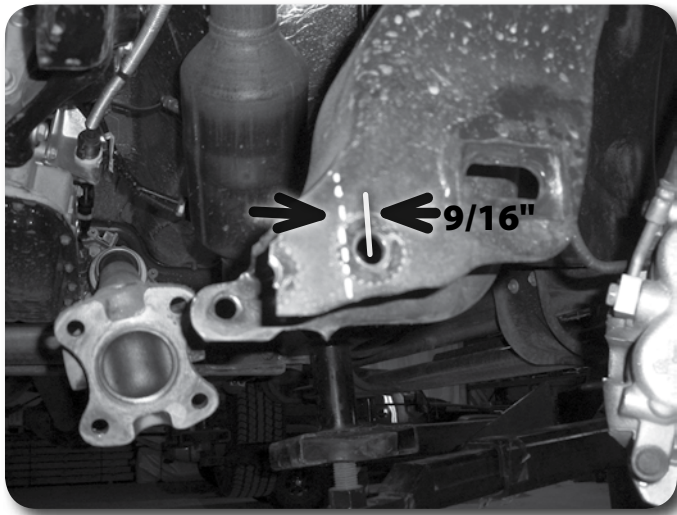

Figure. 11
30. The driver's side rear lower control arm pocket must be trimmed to provide clearance for the differential in its lowered position. Measure inward from the center of the outer crossmember mounting hole  $9/16"$  and mark. Repeat on the opposite side of the pocket. Make a continuous line connecting the two marks over the top edge of the pocket. Trim the pocket on the line with a saw-zall or cut off wheel. Paint any exposed metal to prevent corrosion **Figure 11 / 12.**